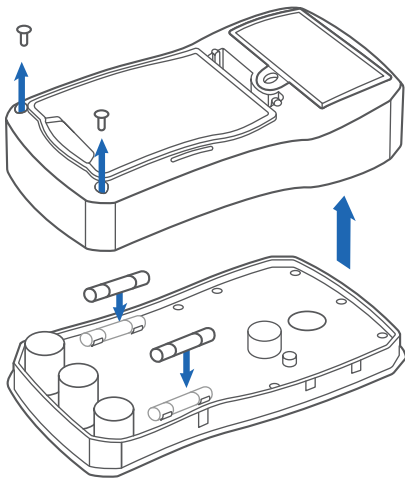

Figure 12.1
3. Use a small screwdriver to remove both screws on the bottom of the multimeter. Remove the front cover from the back cover. [\[Figure 12.1\]](#)